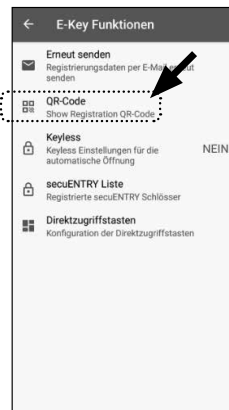

Fig. 40
- ⑤ In the next menu, tap on "QR code" (Fig. 40), after which a QR code is displayed on the entire screen.
- ⑥ Leave the QR code displayed on the screen and put the smartphone B aside for a moment. The next steps are performed on smartphone A.